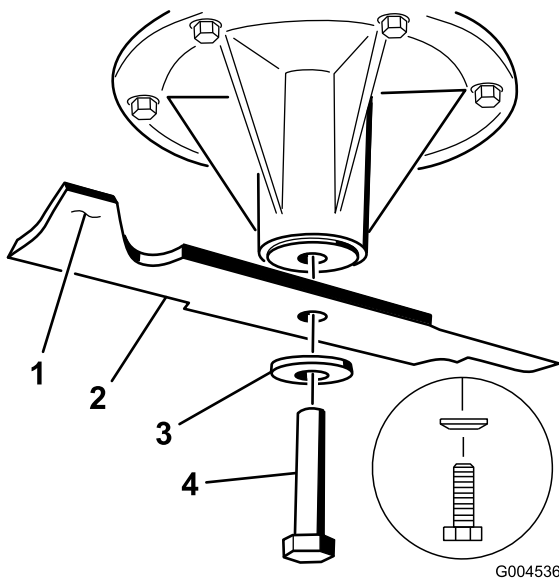

Figure 81
2. Remove the blade bolt, the curved washer, and the blade from the spindle shaft (Figure 81).
3. If the blade is not balanced, file some metal off the end of the sail area only (Figure 81).